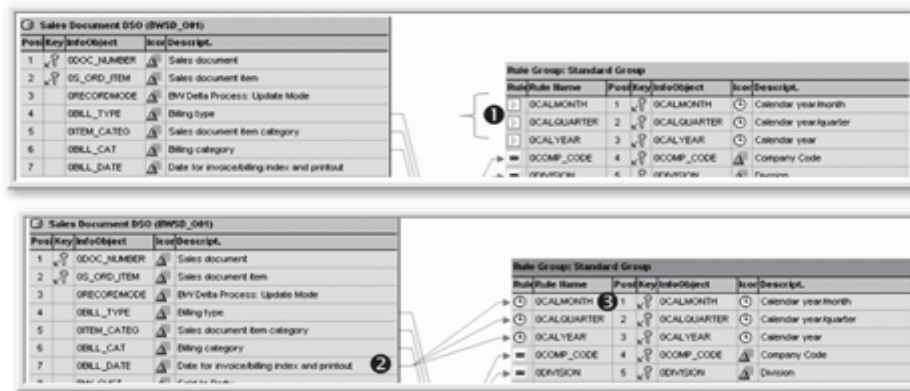

Figure 7.72 Time Conversion Transformation
(OCALMONTH, OCALQUARTER, and OCALYEAR). Select OBILL_DATE (❷), and drop it over OCALMONTH. Repeat this process for OCALQUARTER and OCALYEAR. The result of these activities is shown in ❸ of Figure 7.72.